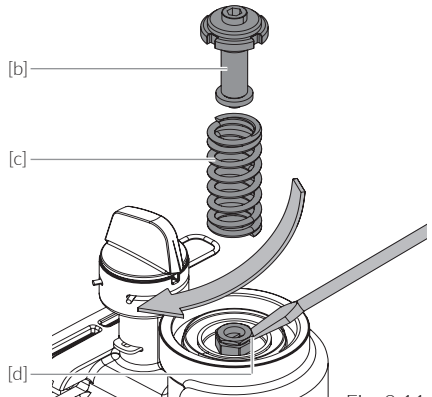

Fig. 9.11
- / Fig. 9.11: Remove adjusting screw unit [b] and spring [c]